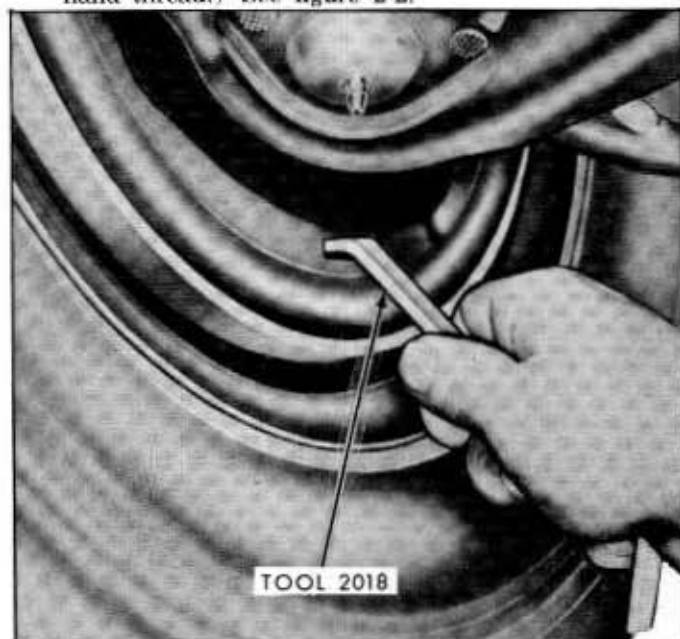

Fig. 2-2—Typical Brake Shoe Adjustment—(60C-2002)
2. Remove the adjusting hole cover from the bottom of the brake carrier plate and turn the adjusting screw with Tool 2018 until a slight drag on the wheel is noted. (The adjusting screw has a right-hand thread.) See figure 2-2.